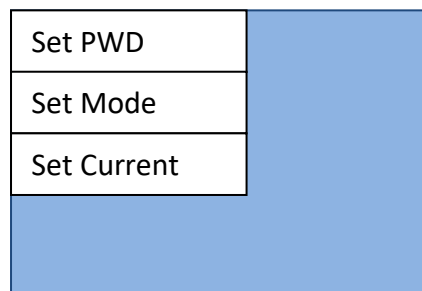

Figure 24 - Password, mode of use and power configuration screen
- 4) Figure 24 Figure. Two screens (